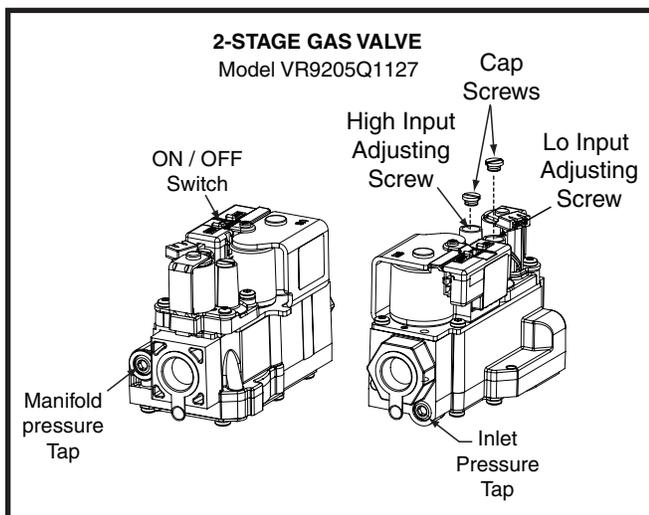

Figure 7. Regulator Capscrew & Tap Locations
4. Place the gas valve ON/OFF switch to the ON position. See Figure 7 \(page 19\).
- Using a 3/16" Allen wrench, remove the plug from the inlet pressure tap (INLET side of gas valve). See Figure 7 (page 19).
3. Using a 3/16" Allen wrench, remove the manifold pressure tap plug located on the outlet side of the gas valve (Figure 7).
1. Remove the cap screw from the top of the gas valve regulator (Figure 7).